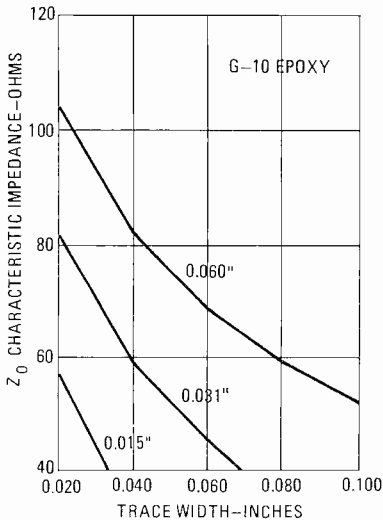

FIG. 4—USE THIS CHART to determine microstrip trace width for various impedances and thicknesses of G-10 epoxy board.
Figure 4 is the functional simplified schematic for a field telephone (**do not attempt to build that circuit**). Momentary switch S4 is not part of the field telephone, it is added when the phone is converted to a Red Box; so for now, consider that S4 does not exist. Once again, S1 is the hook switch. When S2 is set to N (NORMAL) and S1 is closed, DC flows from line A through T1's secondary (S).
FIG. 4—A SIMPLIFIED RED BOX. Switch S2 lifts the handset from the telephone line and connects two D-cells as a local power supply. The circuit is DC-isolated from the telephone line even when hook switch S1 is closed.
strip are given in PC Service. The recommended printed-circuit board material is double-clad 0.060-inch G-10 epoxy board. The pattern shown is intended for 75-ohm operation. For alternate impedances (Z_0) or different thicknesses of G-10 board, you will need to change both the input and the output trace widths; refer to the chart shown in Fig. 4, which shows the characteristic impedance vs. signal-trace width required for various G-10 thicknesses. For example, a 50-ohm Z_0 (characteristic impedance) and a 0.031-inch G-10 board requires a signal trace width of approximately 0.050-inch.